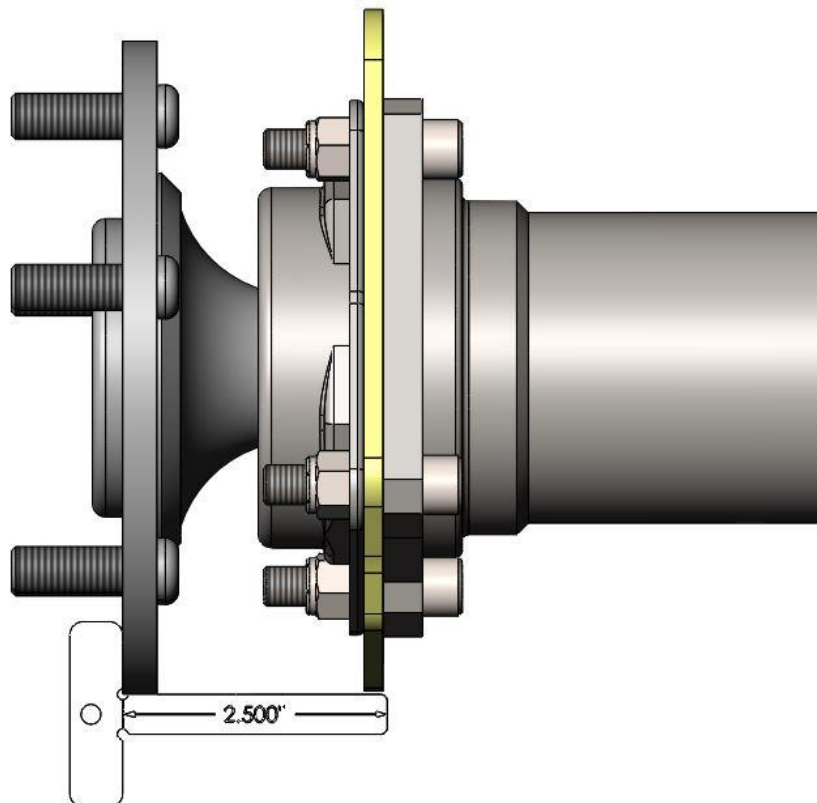

Figure 4 – Measuring Axle Standoff (2.500" Standoff Shown)
6. The standoff of the rear axle must be determined next. This is achieved by taking the supplied depth gauge and holding it flat on the face of the axle flange. If the end of the depth gauge is flush with the back side of the previously installed Caliper Bracket Mounting Flange, your standoff is 2.500". If the end of the depth gauge is sticking past the end of the previously installed Caliper Bracket Mounting flange by .125" approximately, your axle standoff is 2.375". Refer to Figure 4 below for reference on how to measure your standoff.